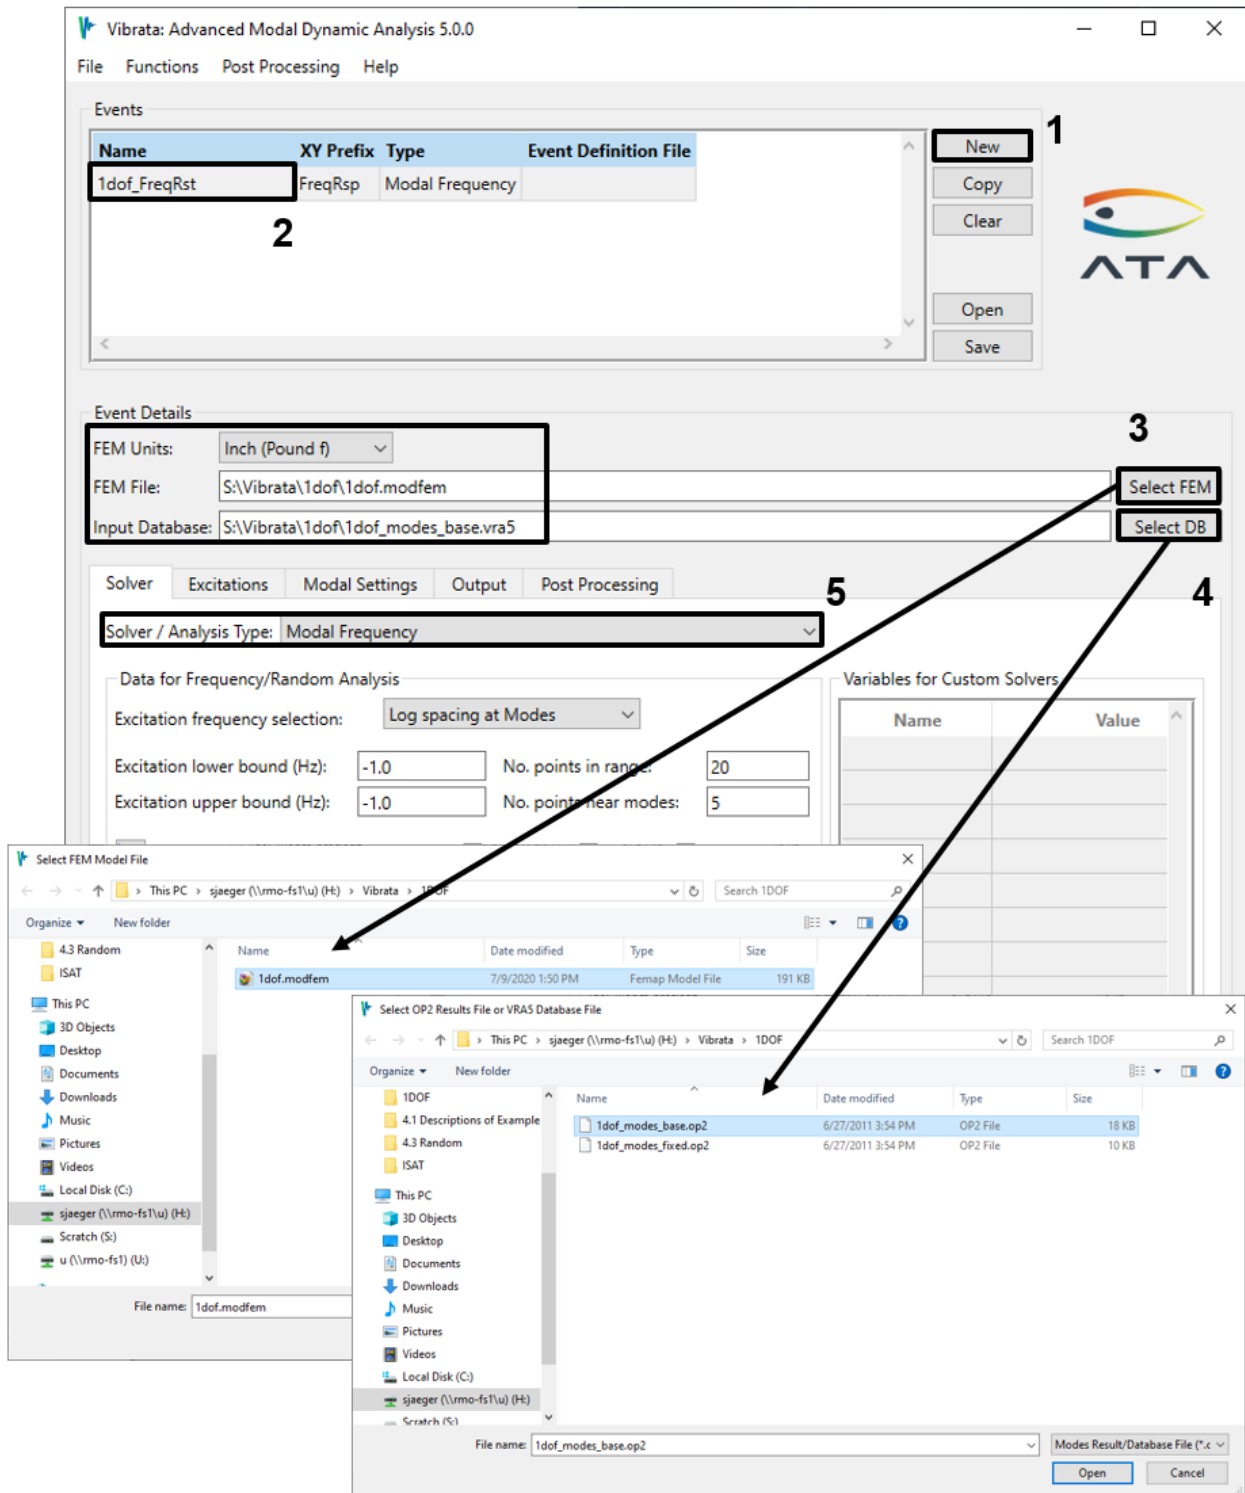

Figure 4-10. Create a new frequency response event and select the FEM on which to base it.
2. Start Vibrata and create a new modal frequency event using that modfem file (Figure 4-10) and select the OP2 named "1dof\_modes\_base.op2" for the results. You can assign an XY Prefix here, or you will be asked for one when you solve.